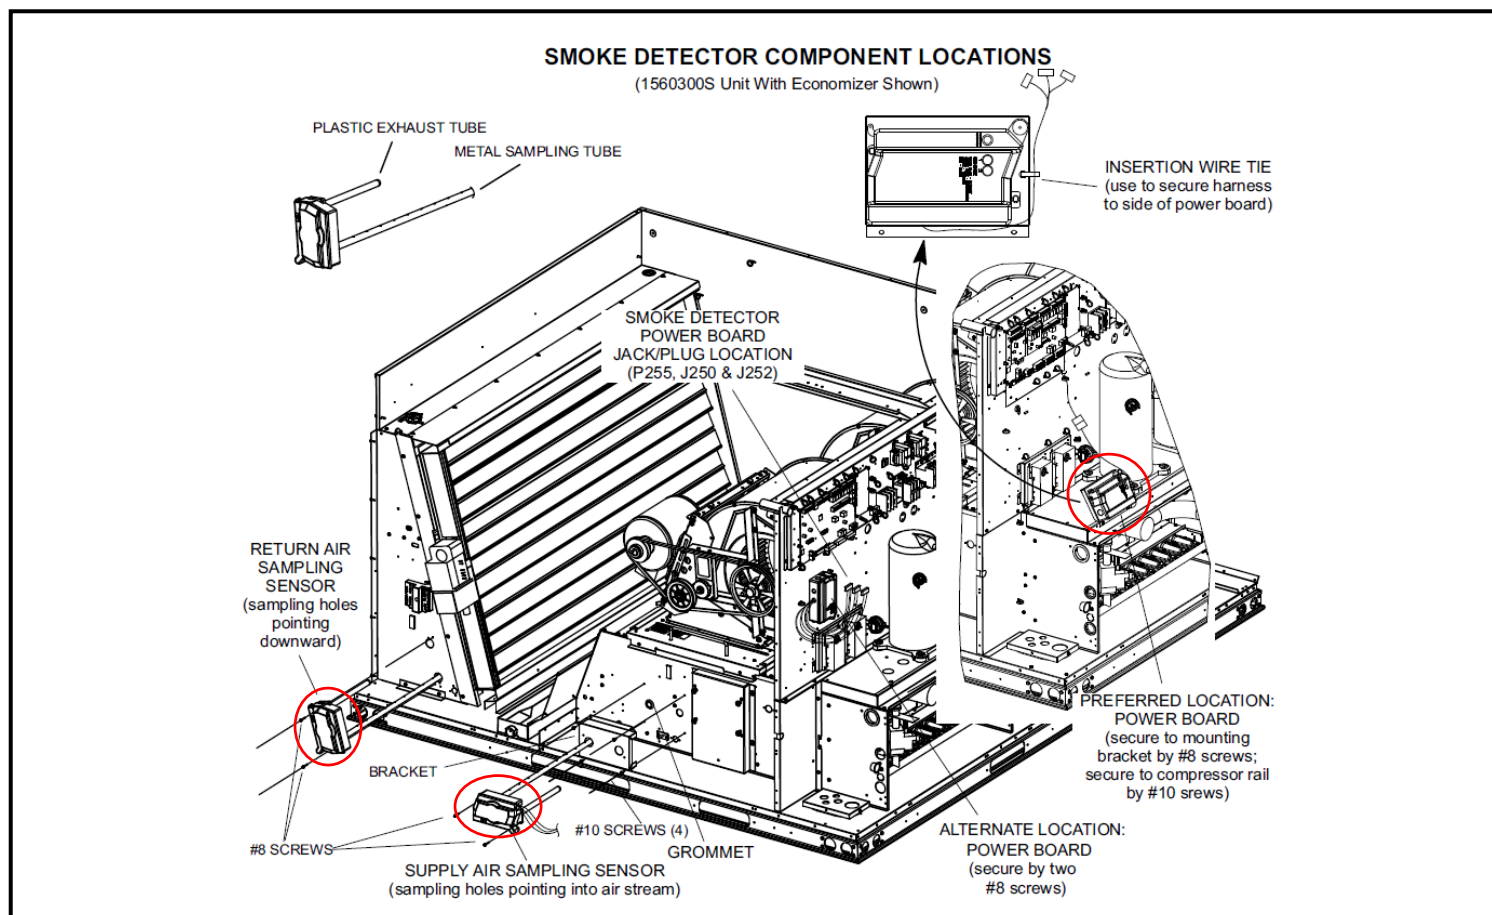

Figure 1. Smoke Detector Component Locations
- a. Refer to the D4P120 & D4S Smoke Detector Kits Installation Manual – 506791, or Figure 1 below, for approximate component locations.